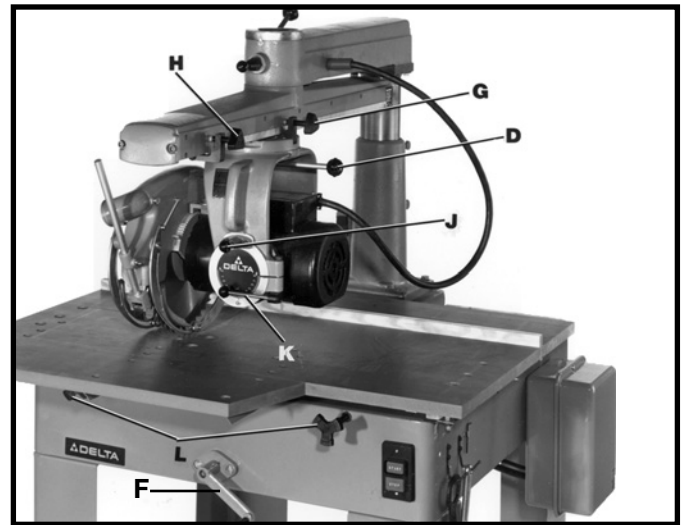

Fig. 3
**D - YOKE CLAMP HANDLE Fig. 3.** The yoke clamp handle must be loose when rotating the yoke to the rip or cross-cut position.
**F - ELEVATING CRANK HANDLE Fig. 3.** Controls the depth of cut in all operations. Turning the crank handle raises or lowers the over-arm.
**G - CUTTINGHEAD CLAMP KNOB Fig. 3.** Locks cuttinghead at any position on the track-arm. When ripping the cutting clamp knob must be tight.
**H - CROSS-CUT STOP Fig. 3.** Prevents unnecessary travel of the cuttinghead on the track-arm. It is especially useful when performing repetitive operations. Clamp the stop to the side of the track-arm at a position which will stop the cuttinghead travel as soon as the blade cuts through the workpiece.
**J - BEVEL INDEX KNOB Fig. 3.** Locates 0° and 45° and 90° positions of the motor when bevel cutting. When tilting the motor for bevel cutting, the bevel clamp handle (K) must first be loose.
**K - BEVEL CLAMP HANDLE Fig. 3.** Controls tilt of motor for bevel cutting operations. Locks motor at any desired angle on the bevel scale.
**L - TABLE CLAMP KNOBS. Fig 3.** Allows the operator to quickly set the desired fence position.